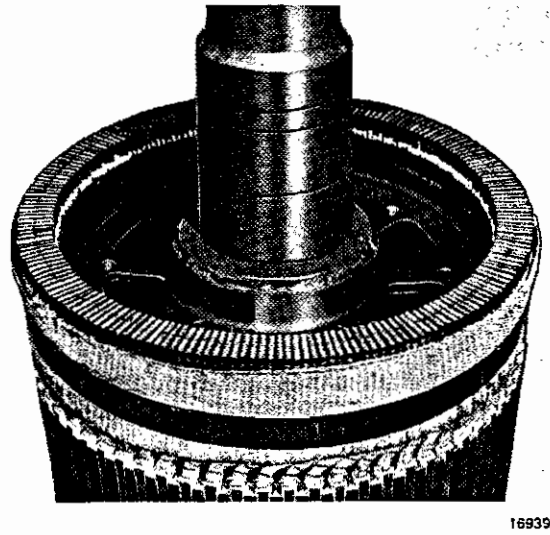

Fig. 53 - Pinion End Coil Connectors
1. Straighten coil leads and clips carefully. Ensure the coil clips are seated evenly, Fig. 53.